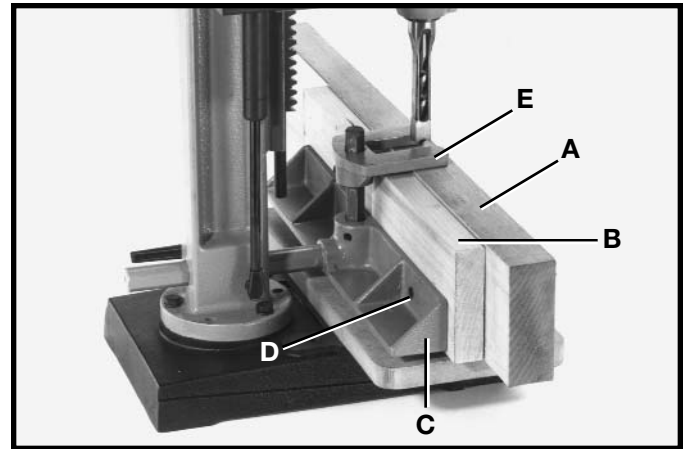

Fig. 35
When mortising extra high workpieces (A) Fig. 35, an auxiliary fence (B) can be fastened to the fence (C) with wood screws (D) through the two holes in the fence. This provides additional support for the workpiece during the mortising operation. Note that the holddown (E) can be turned upside down to accommodate the extra height of the workpiece.